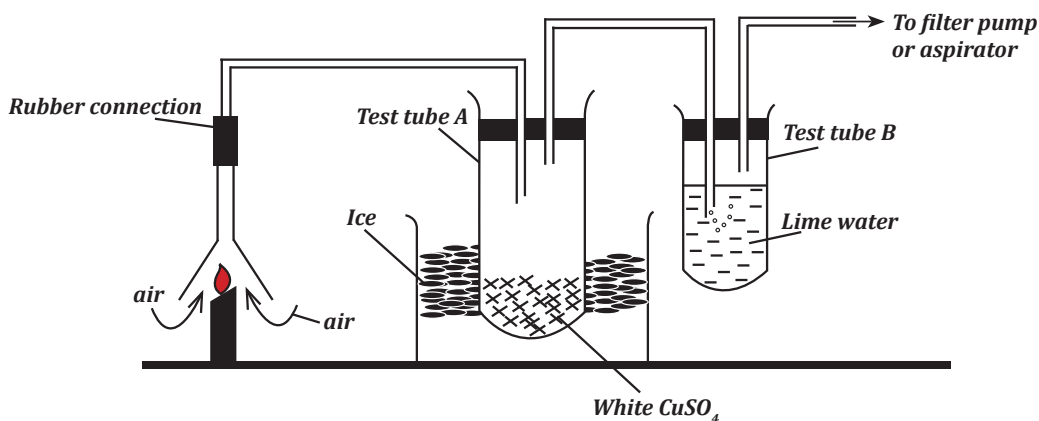

Figure 7.4. Investigating the products of the combustion of a candle
- (i). Grind blue copper (II) Sulphate with a pestle in a mortar to get a fine powder. Heat this powder very strongly until it turns completely white.
- (vi). Set the apparatus as seen in figure 7.4